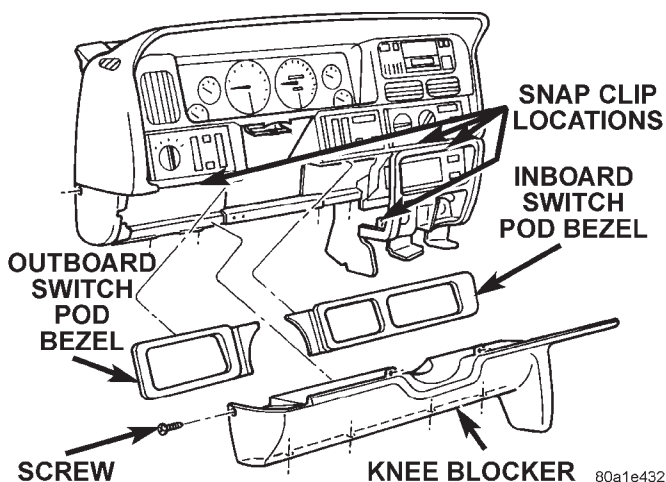

Fig. 4 Knee Blocker Remove/Install
- (1) Disconnect and isolate the battery negative cable.
- (2) Remove both switch pod bezels as described in this group.
- (3) Remove one screw on each side of the steering column that secures the upper edge of the knee blocker/steering column cover to the instrument panel (Fig. 4).
- (4) Remove the one screw that secures the outboard end of the knee blocker to the instrument panel.
- (5) Remove the four screws that secure the lower edge of the knee blocker to the lower instrument panel reinforcement.
- (6) Using a trim stick or other suitable wide flat-bladed tool, gently pry the edges of the knee blocker away from the instrument panel at the snap clip retainer locations (Fig. 4).
- (7) Remove the knee blocker/steering column cover from the vehicle.